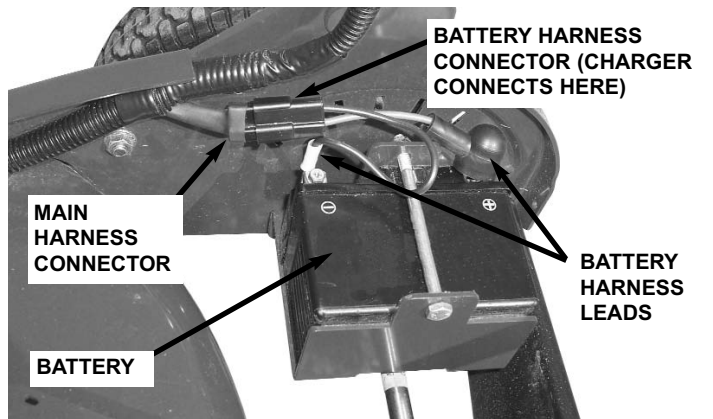

FIGURE 4.10
**Supplied DC charger.** Plug charger connector into battery harness connector. See Figure 4.10. Plug charger into wall outlet and charge battery for 48 hours. (Longer periods will not damage battery.)